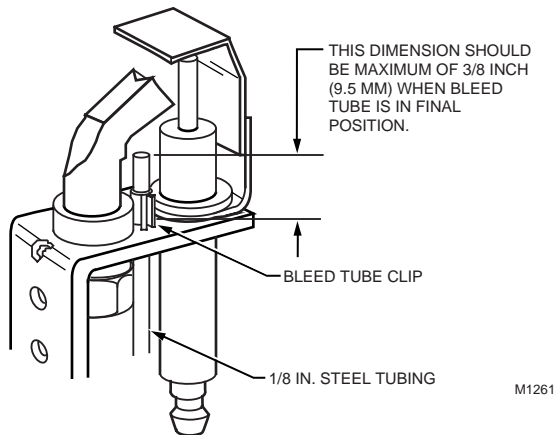

Fig. 16. Install bleed gas tube.
- ① Route the bleed tube from the bleed tap on the gas control to the pilot burner/igniter-sensor.
- ② Push the clip into place. See Fig. 16.